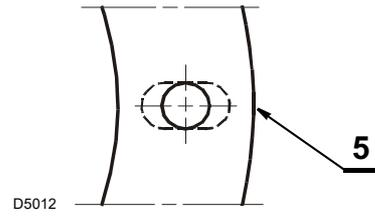

Fig. 7
- Widen, if necessary, the insulating gasket holes 5), (see Fig. 7).